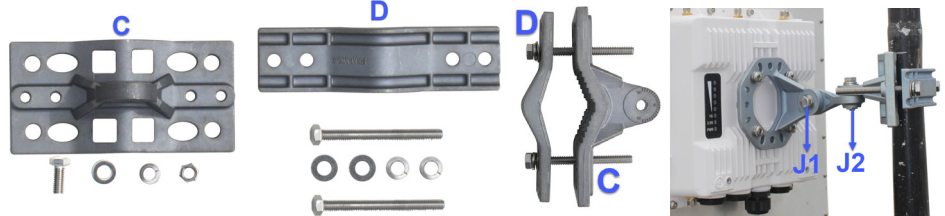

Figure 5: Pole Mounting
1. To pole-mount the device, insert the provided bolts through Bracket (D), mate with Bracket (C) around the pole, and secure with supplied washers torquing to 100 Lbf-in (115 Kgf-cm). The supplied screws (Hex. Cap 5/16" x 4" long) are designed for pole diameters from 32 to 89 mm (1.25 to 3.5 inches).
2. Fix the fixed Extension Arm (B) to the Mounting Bracket (C) with the provided bolt, nut, and washers. Partially tighten the joints J1 and J2 to allow for alignment of the device.
4. While installing the device, make sure that the device Ethernet Port-1 with cable installation (using cable gland) faces downward only as shown in Figure 5 below: